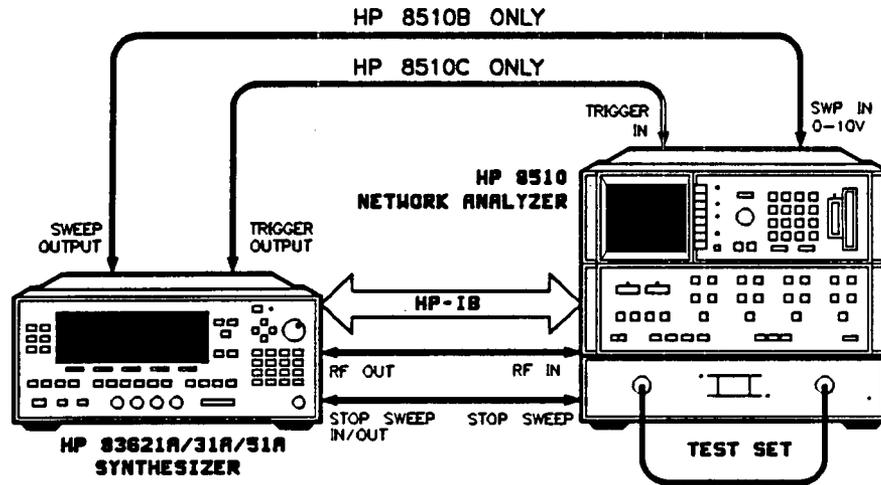

Figure 2-3. Swept Frequency Accuracy Setup
1. Connect the equipment as shown in Figure 2-3. Preset the instruments and let them warm up for at least one hour.